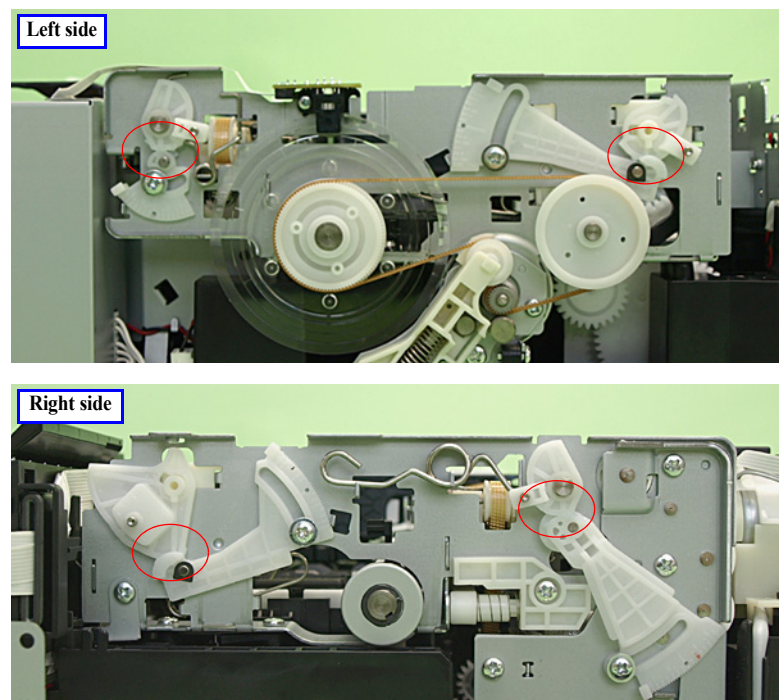

Figure 5-36. PG position when adjusting
- Artisan 810/835/837/710/725/730/PX810FW/TX810FW/PX820FWD/TX820FWD/PX830FWD/PX710W/TX710W/PX720WD/TX720WD/PX730WD/TX730WD have four PG pre-settings using the APG mechanism. Use the minimum PG setting (PG-: 1.2 mm) to carry out this adjustment. See Figure. 5-36.
- Check that the PG cams; located on both the left side and the right side of the Carriage Shaft and the CR guide plate, are in the PG-position. (Fig. 5-36)
Artisan 810/835/837/710/725/730/PX810FW/TX810FW/PX820FWD/TX820FWD/PX830FWD/PX710W/TX710W/PX720WD/TX720WD/PX730WD/TX730WD has four PG pre-settings using the APG mechanism. Use the minimum PG setting (PG-: 1.2 mm) to carry out this checking. See Figure 5-36.